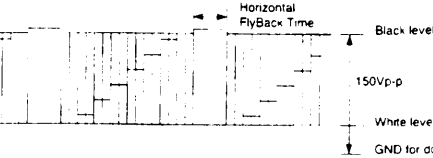

Fig 6.
- 5: Adjust screen volume of FBT so that the waveform is the same as in fig. 6.